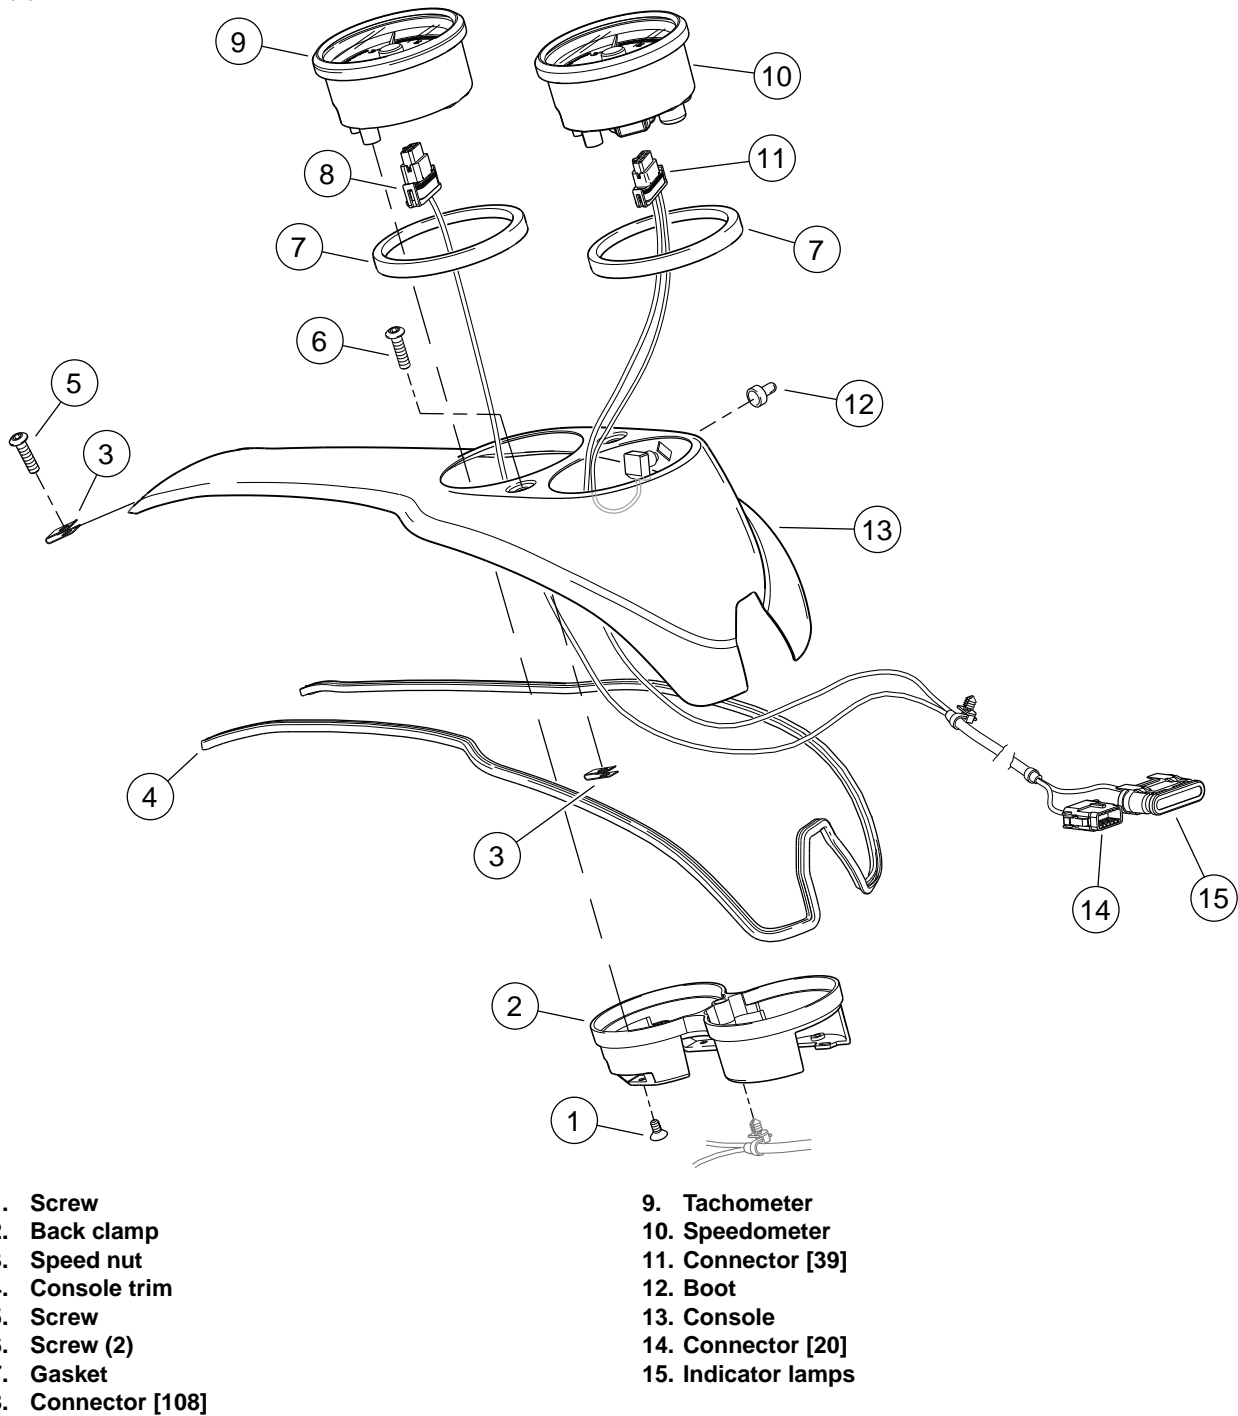

Figure 8-52. Instrumentation: FXDL, FXDB
1. See Figure 8-52. Remove screws (5, 6) and lift console from fuel tank.
3. Remove four screws (1) and back clamp (2) from speedometer (10) and tachometer (9).
4. Depress connector tab and remove 12-place connector (11) [39] from back of speedometer.
5. Remove speedometer from console (13). Remove gasket from speedometer/console.
1. See Figure 8-52. Install gasket (7) to console (13).
2. Install speedometer (10) in console.
3. Install connector (11) [39] to back of speedometer.
4. Install back clamp (2) to speedometer/tachometer with four screws (1). Make sure there is no binding with the wiring harnesses and the bracket.
2. Install tachometer (9) in console.
3. Install connector (8) [108] to tachometer under console.
4. Install back clamp (2) to speedometer/tachometer with screws (1). Make sure there is no binding with the wiring harnesses and the bracket.